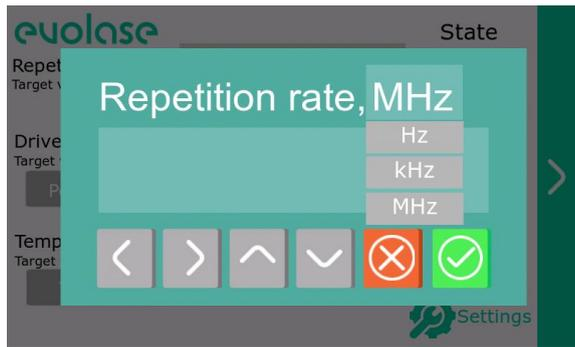

Figure 19 – Setting the repetition rate
7. Tap on repetition rate value to set the pulse train repetition rate (fig. 19). Select the frequency range (Hz, kHz or MHz), then use the left and right arrows to select the digit to change, use the up and down arrows to change the value. Press button to save the changes and exit menu. Press button to exit menu without changes.